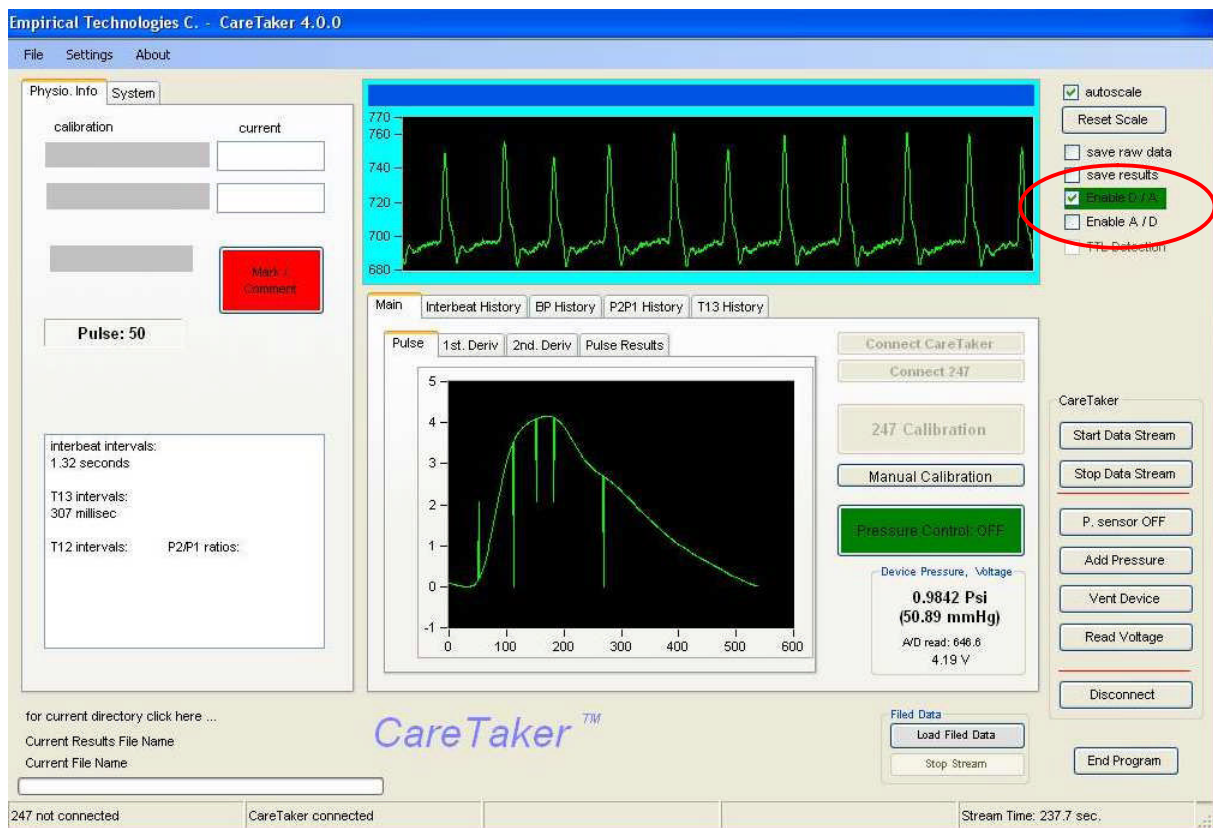

Figure 21 Enabling the D/A output
The GUI has an additional check mark (Figure 21, red circle) that, if selected, will enable two D/A channels to output a voltage proportional to systolic and diastolic blood pressure.
- The D/A channels will output non-zero voltages ONLY if either a manual or 247-based calibration has been performed and systolic and diastolic BP values are being displayed (Figure 21, green circle)